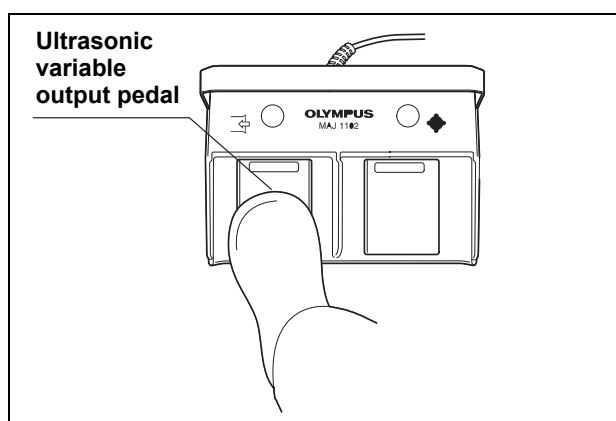

Figure 5.9
3. While stepping on the ultrasonic variable output pedal of the foot switch (MAJ-1102) as shown in Figure 5.9, activate the ultrasonic output and confirm that the irrigation unit generates an ultrasonic output sound and no abnormal noises. If the ultrasonic output warning lamp lights up, take proper measures as described in Chapter 8, "Troubleshooting".